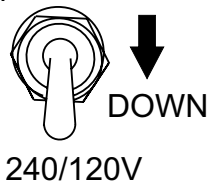

Figure 23. Full Power Switch 240/120V Position (Down)
12. Place the full power switch (Figure 23) in the 240/120V position (down).